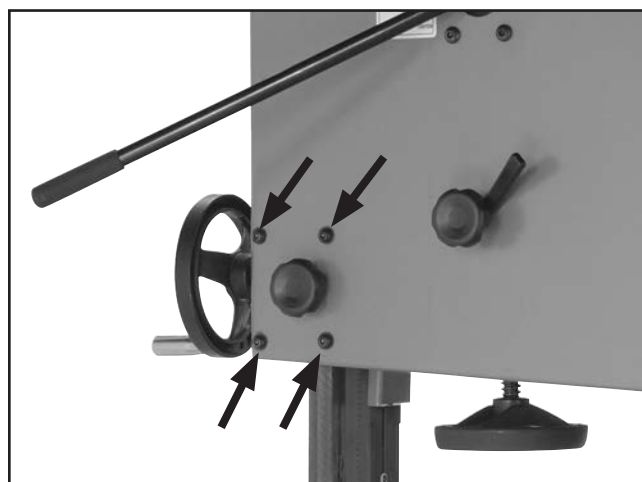
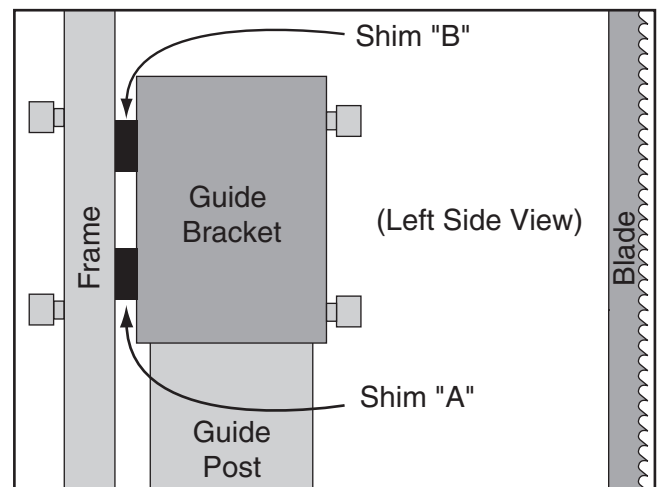

Figure 82. Guide post adjustment screws.
Figure 84. Location for placing shims.
7. Loosen each of the four screws shown in **Figure 82** ¼ turn.
9. Tighten the screws shown in **Figure 82**.
7. Loosen the four screws shown in **Figure 82** enough to fit metal shims between the frame and the guide post bracket (see **Figure 84**).
8. Tighten the four screws shown in **Figure 82**, then repeat **Steps 4–5**.